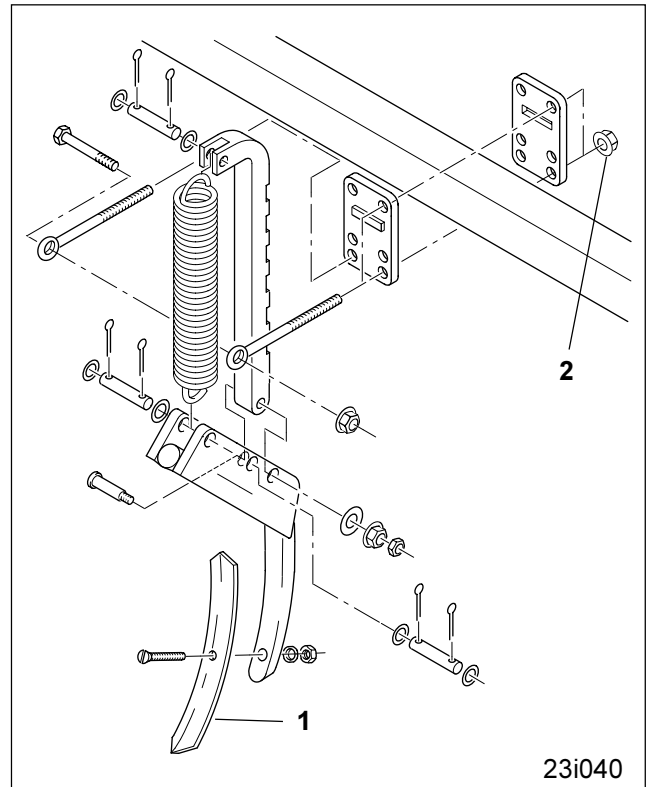
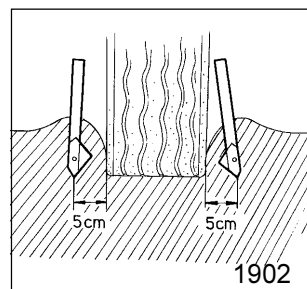
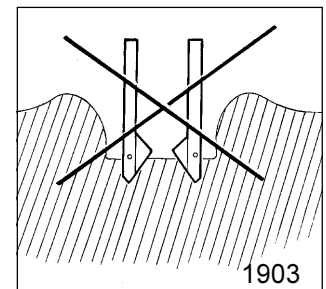

Fig. 23.1
Fig. 23.2
Fig. 23.3
The eradicators (Fig. 23.1) „plough“ the loose soil by the side of the tractor track (see Fig. 23.2) into the tractor track. This way, the best levelling of the tractor track is achieved and receives sufficient loose soil for seed germination. Damage of the eradicators from stones in the compacted track are avoided.
When supplied the four eradicators (Fig. 23.1) are attached to the main frame tube of your seed drill. Bring the eradicators into operating position only immediately prior commencing work in the field.
- Slacken the hex. nuts (Fig. 23.1/2) and set the eradicators on the frame main tube to the correct position.
Affix the eradicators on the frame main tube in such a way that each two eradicator tines (see Fig. 23.2) work approx. 5 cm r. h. and l. h. by the side of the tractor track. **Do not fit** the eradicator tines as shown in Figure 23.3.
- Set the eradicator tines (Fig. 23.1/1) to the correct working depth.
- Tighten hex. nuts (Fig. 23.1/2).
When parking the seed drill ensure that the eradicator tines (Fig. 23.1/2) are swiveled to the rear to avoid damage to the eradicators.